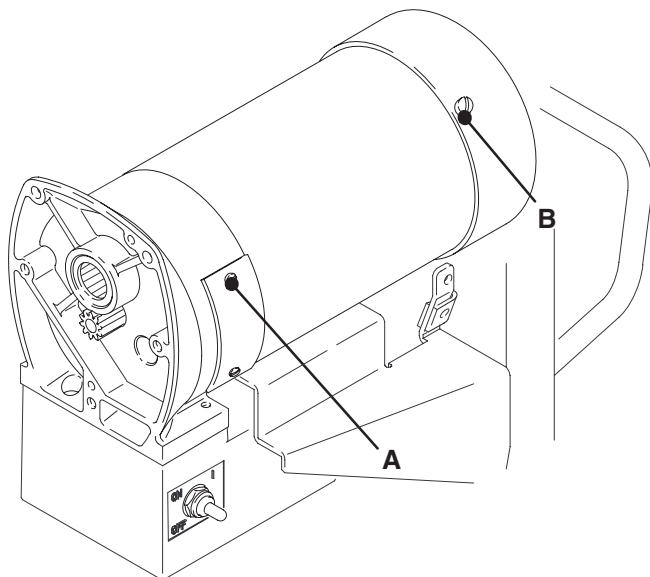

Fig. 12
3. Remove motor brush inspection covers (A). See Fig. 12.
1. Remove fan cover (B). See Fig. 12.